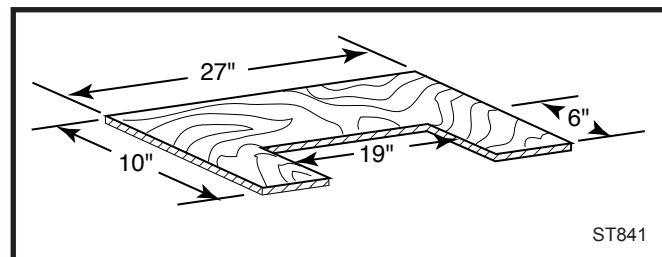

Fig. 8 Wood bridge dimensions.
15. Place the assembled stove front into its cemented channel in the stove bottom and hold it and the back vertical with a wood bridge. (Fig. 8)